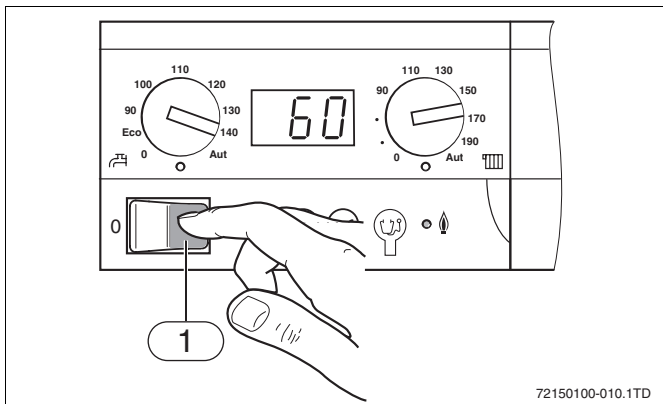

Fig. 11
- ▶ Switch on the heating system by setting the main switch to position "1" (see fig. 11, page 11).
- ▶ Wait five (5) minutes to clear out any gas. Then smell for gas, including near the floor. If you smell gas, STOP! Follow "B" in the safety information on page 10. If you do not smell gas, go to the next step.
- ▶ Switch on the heating system using the main switch (→ fig. 11).